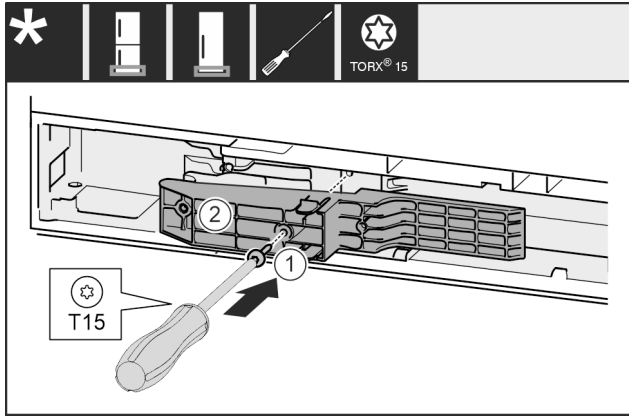

Fig. 56 *
- ▶ 将把手侧的适配件 Fig. 56 (1)插入凹槽。*
- ▶ 将螺钉 Fig. 56 (2)用螺丝刀拧紧。*